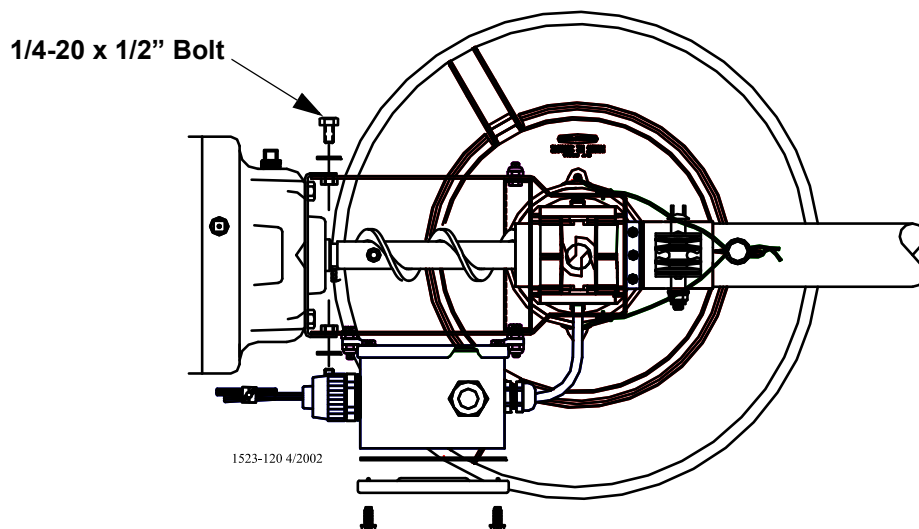

Figure 36. Attaching the Anchor Plate and Gearhead Assembly to the Control Unit Body
7. Attach the Anchor Plate and Gearhead Assembly to the Control Unit Body using the included 1/4" lock washers and 1/4-20 x 1/2" Bolts. See **Figure 36**.